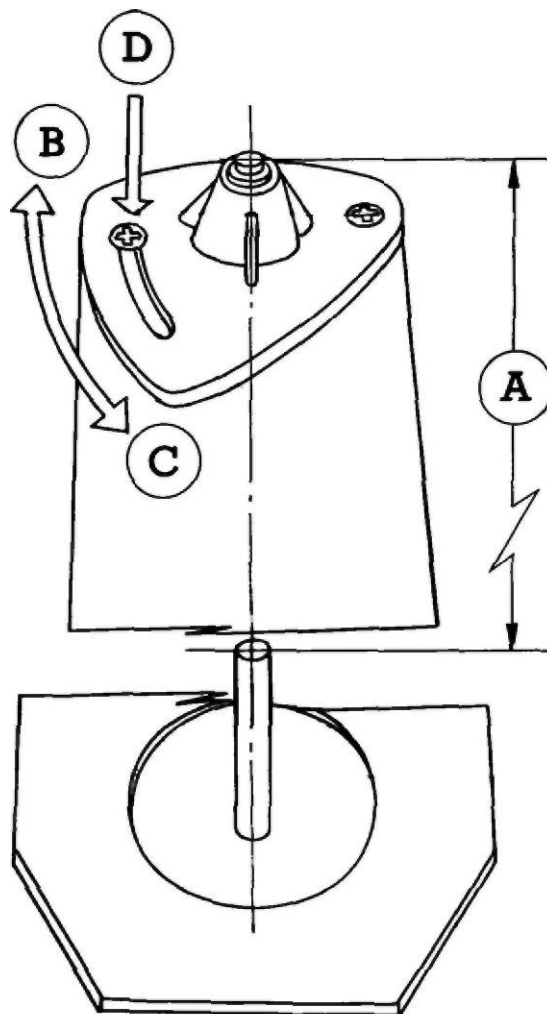

Fig. 6.
6. ADJUSTMENT: (Refer to Fig. 6.)